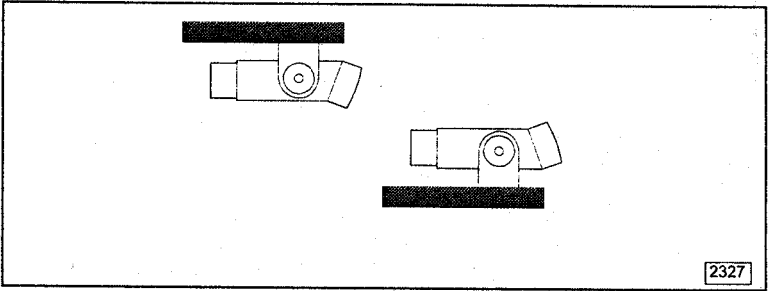

Figure 4. Regular Mounting Bracket
4. Secure the radio to the brackets with the mounting knobs (see Figure 4).